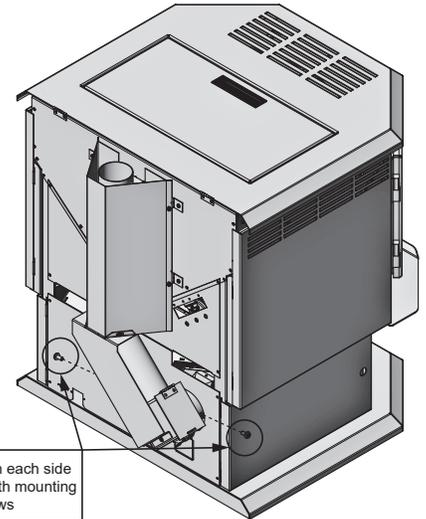

Figure 4
6. Drill two (2) holes with #26 Drill Bit (C3) through the exhaust outlet using the two (2) holes already in the short horizontal pipe in the Top Vent Adapter Assembly (C1) as a guide; secure using two (2) mounting 8-32 x 3/8 inch screws (C2) (Figure 4).